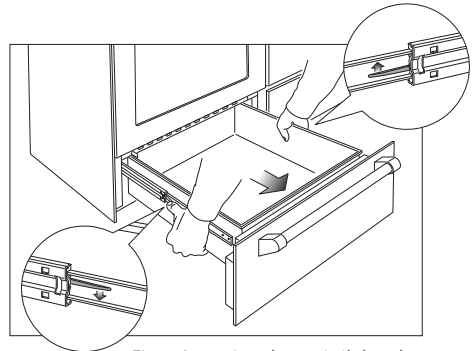

Fig. 6 Accessing the anti-tilt bracket by removing the left drawer
- 4 Access the bracket by removing the left drawer (Fig. 6):